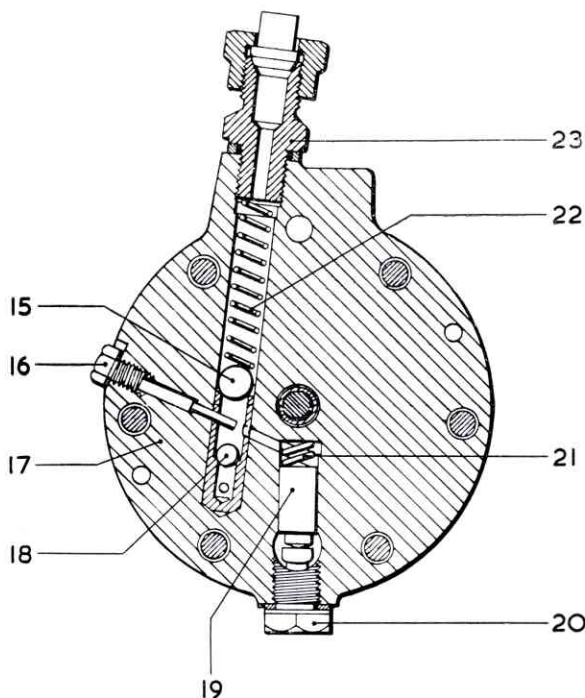

FIG. 95. SECTION THROUGH THE SCAVENGE PUMP
The scavenge pump, Fig. 95, consists of a plunger (19) and ball valves (15) and (18) housed in a sandwich plate (17), which is fitted between the feed pump cover and body. The pump plunger is operated by the lower arm of the compound bell-crank lever.
Refer to Fig. 95.